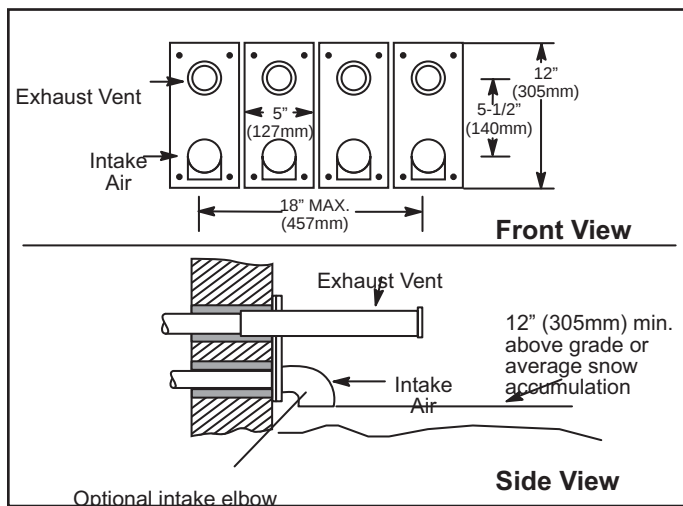

Figure 37. Optional Vent Termination for Multiple Unit Installation of Direct Vent Wall Termination
8. A multiple furnace installation may use a group of up to four terminations assembled together horizontally, as shown in Figure 37.